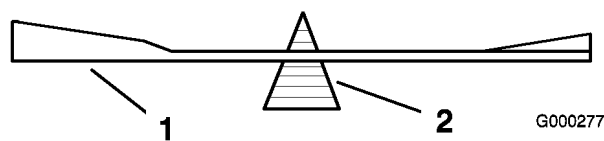
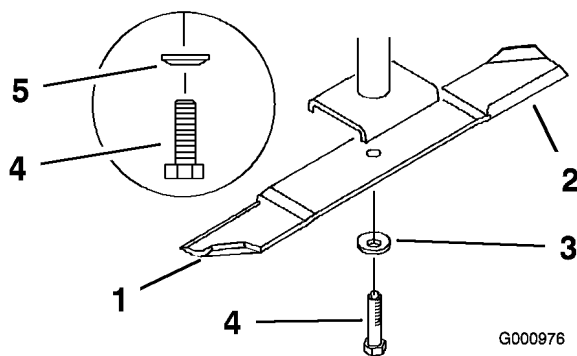

Figure 63
Figure 64
2. Remove the blade bolt, spring disk and blade from the spindle shaft (Figure 64).
2. Check the balance of the blade by putting it on a blade balancer (Figure 63). If the blade stays in a horizontal position, the blade is balanced and can be used. If the blade is not balanced, file some metal off the end of the sail area only (Figure 64). Repeat this procedure until the blade is balanced.
1. Install the blade onto the spindle shaft (Figure 64).
2. Install the spring disk and blade bolt. The spring disk cone must be installed toward the bolt head (Figure 64). Torque the blade bolt to 85-110 ft-lb (115-150 N•m).